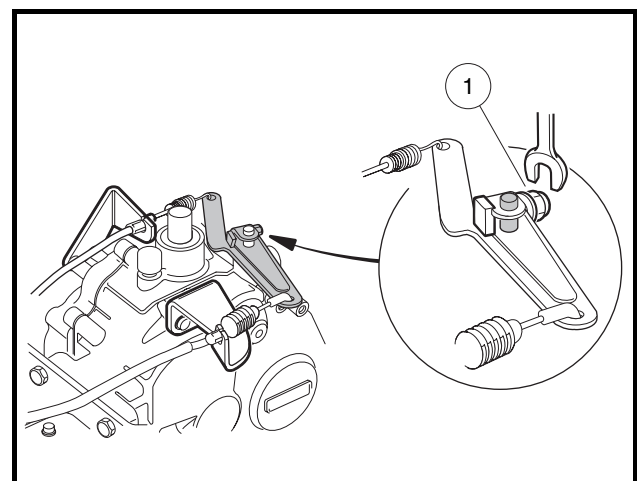

Figure 18-31 Governor Arm
18. Loosen, but do not remove, the governor arm retaining bolt (1) (**Figure 18-31, Page 18-12**). Remove the governor arm from the shaft. Do not disconnect cables.